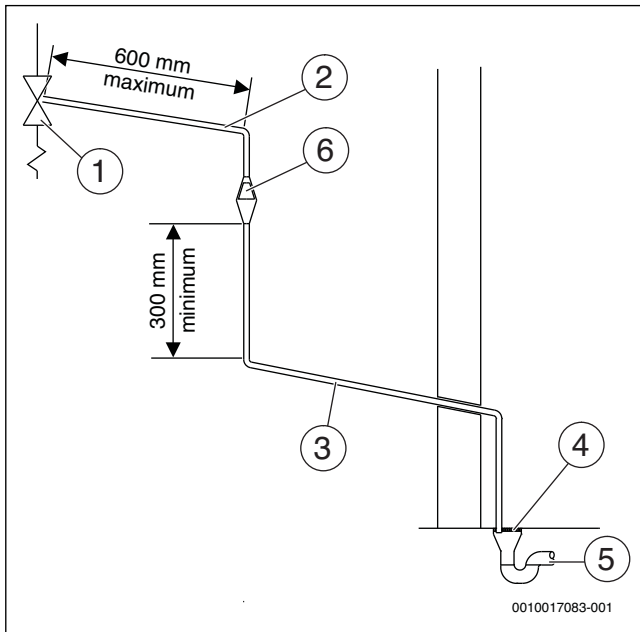

Fig. 12 Diagram of a typical discharge pipe arrangement (extract from Building Regulation G3)
- Be at least one pipe size larger than the nominal outlet size of the safety device unless its total equivalent hydraulic resistance exceeds that of a straight pipe 9 m long i.e. discharge pipes between 9 m and 18 m equivalent resistance length should be at least two sizes larger than the nominal outlet size of the safety device, between 18 and 27 m at least 3 sizes larger, and so on. Bends must be taken into account in calculating the flow resistance. Refer to Fig. 12, Table 9 and the worked example.
1) see Fig. 12